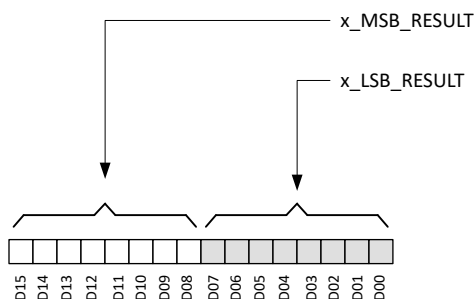

Figure 7-15. Magnetic Sensor Data Definition
The X, Y, and Z magnetic sensor data are stored in `x_MSB_RESULT` and `x_LSB_RESULT` registers. Figure 7-15 shows that each sensor output stored in a 16-bit 2's complement format in two 8-bit registers. The data can be retrieved as 16-bit format combining both MSB and LSB registers, or as 8-bit format through the MSB register.
- D_i is the data bit shown in Figure 7-15.